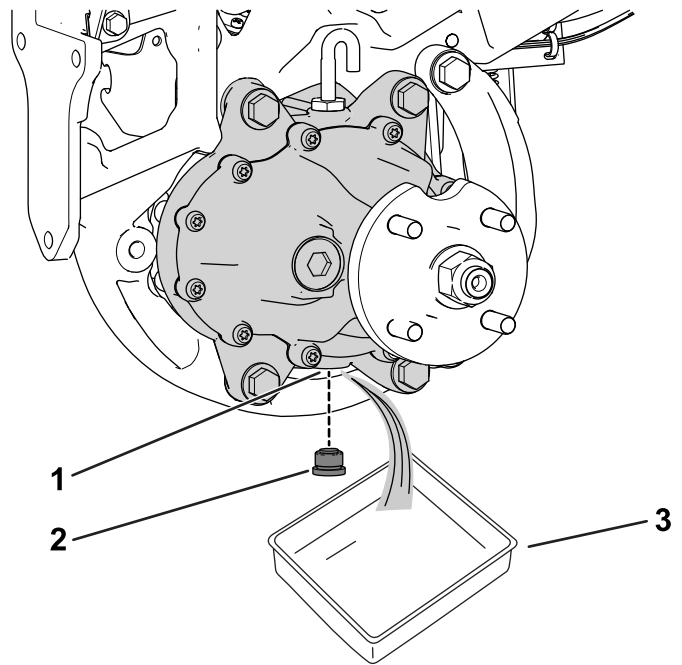

Figure 58
3. Place a drain pan under the wheel-motor assembly (Figure 58).
4. Remove the plug from the drain port (Figure 58).
6. Install the drain plug into the drain port (Figure 58).